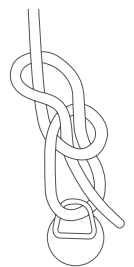

Fig 24 -
4. Finally pass the end back through the small loop (Fig 24).